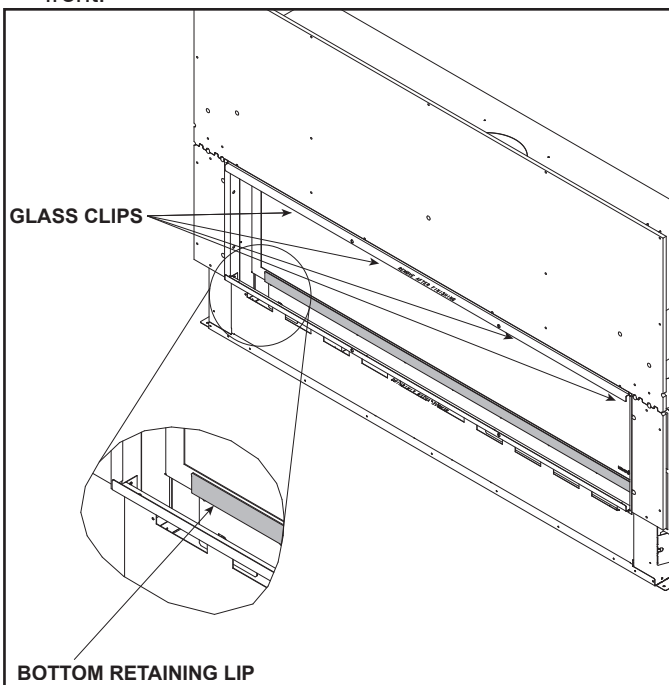

Figure 11.1 Fixed Glass Assembly
3. Locate the glass latches that are on the upper edge of the glass frame of the appliance. See Figure 11.1.